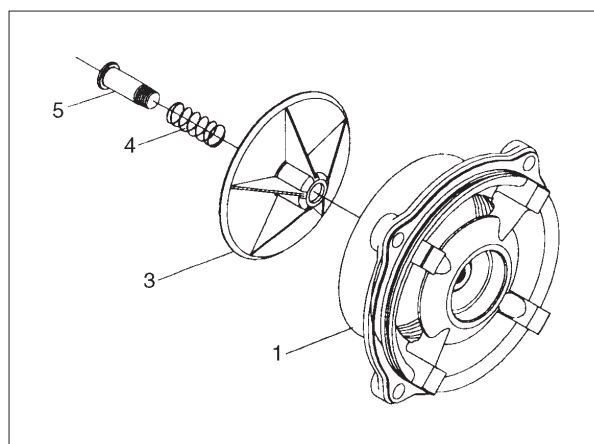

Fig 2.
5) Remove the deflector retaining screw (5), deflector retaining spring (4) and the splash deflector (3) from the housing exhaust cover (1), *See fig 2.*